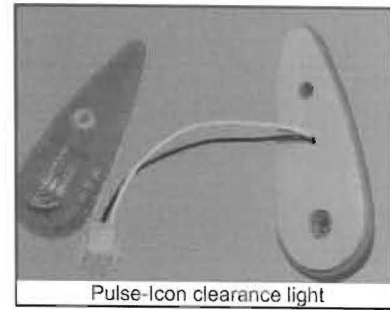

Figure 1
8. A. **Pulse or Icon products:** The light base is connected to the wiring. Allow the base to hang from attached wires while repairs are performed. See Figure 1.